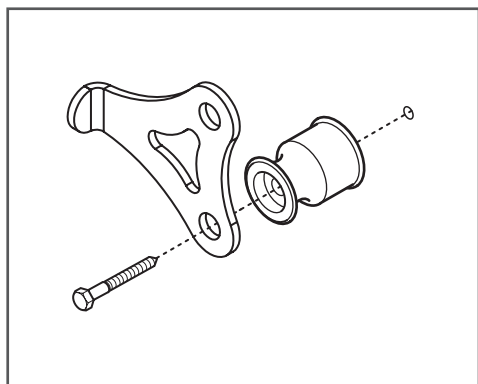

Figure 4
6. Install track lower supports (C.) and door stops (D.) for both ends of the track using lag screws (B.) (Figure 4). Do not tighten.